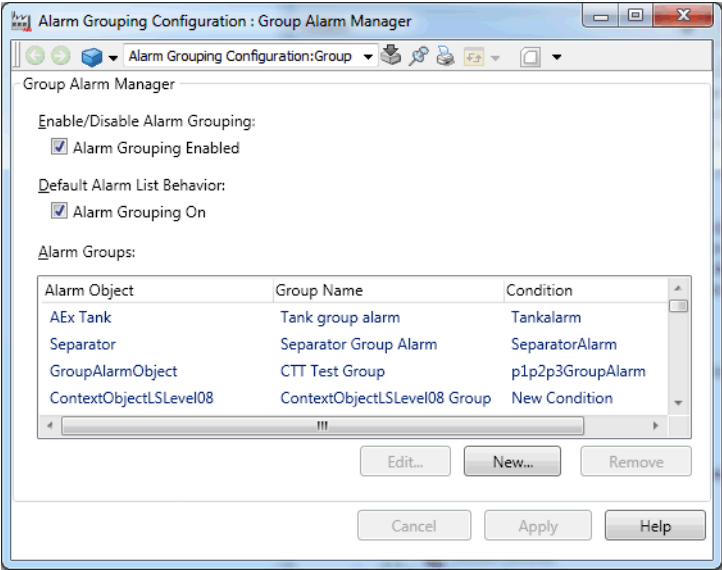

Figure 51. Group Alarm Manager
- 2. Select the **Group Alarm Manager** aspect (refer to Figure 51).